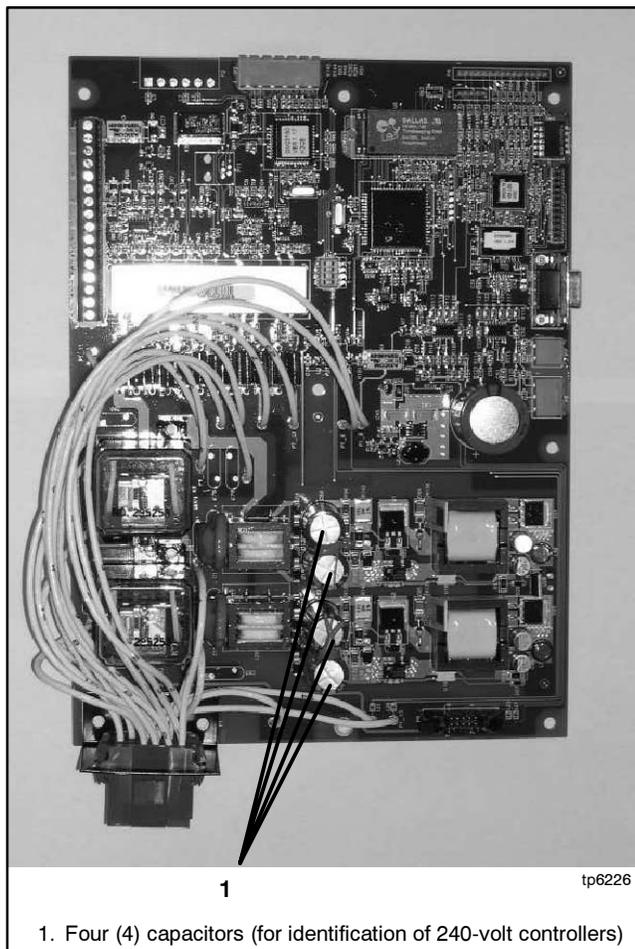

Figure 3-5 240-Volt Circuit Board. **Cannot be directly powered with 120 VAC.**
Note: Controllers with 240-volt boards shown in Figure 3-5 cannot be powered directly.
Compare the controller's circuit board to the photographs in Figure 3-5 and Figure 3-6.
The 240-volt board shown in Figure 3-5 has four (4) capacitors in the power supply area of the circuit board. **These boards cannot be powered directly with 120 VAC.**